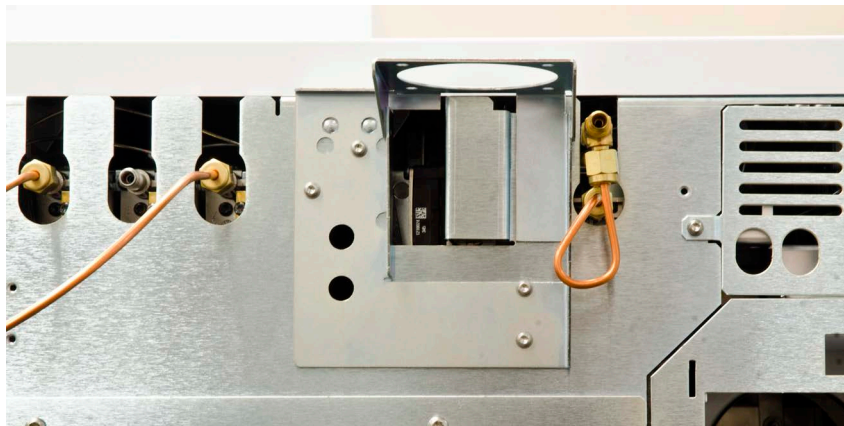

Figure 13. Bracket 5003-1356 installed to 7890 GC
- Using a T-10 Torx driver, install the four T-10 screws to secure the bracket to the GC. See Figure 13.